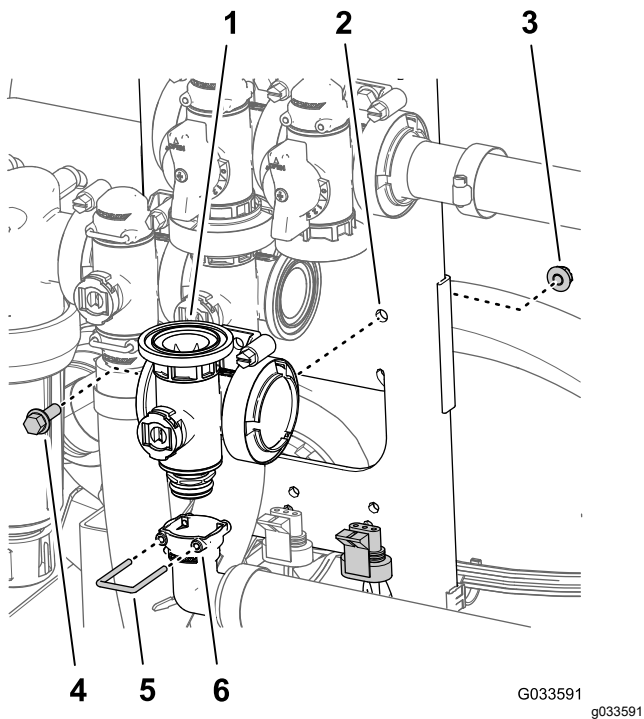

Figure 118
- Remove the retainer that secure the 90° outlet fitting to the manifold coupling for the master-boom valve (Figure 118).
- Remove the flange-head bolt (1/4 x 3/4 inch) and flange locknut (1/4 inch) that secure the master-boom valve to the valve mount and remove the valve manifold from the machine (Figure 118).